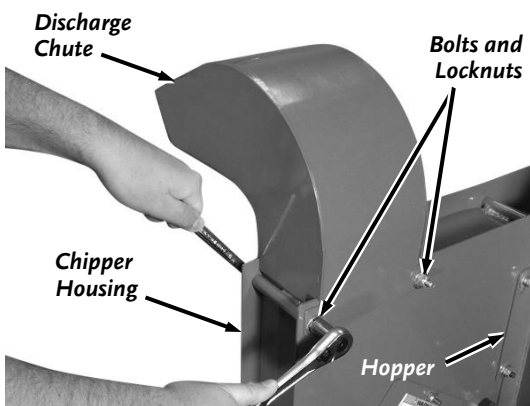

Figure 37
3. Remove the two Bolts and Locknuts that secure the Discharge Chute to the Chipper Housing and then remove the Discharge Chute (**Figure 37**).